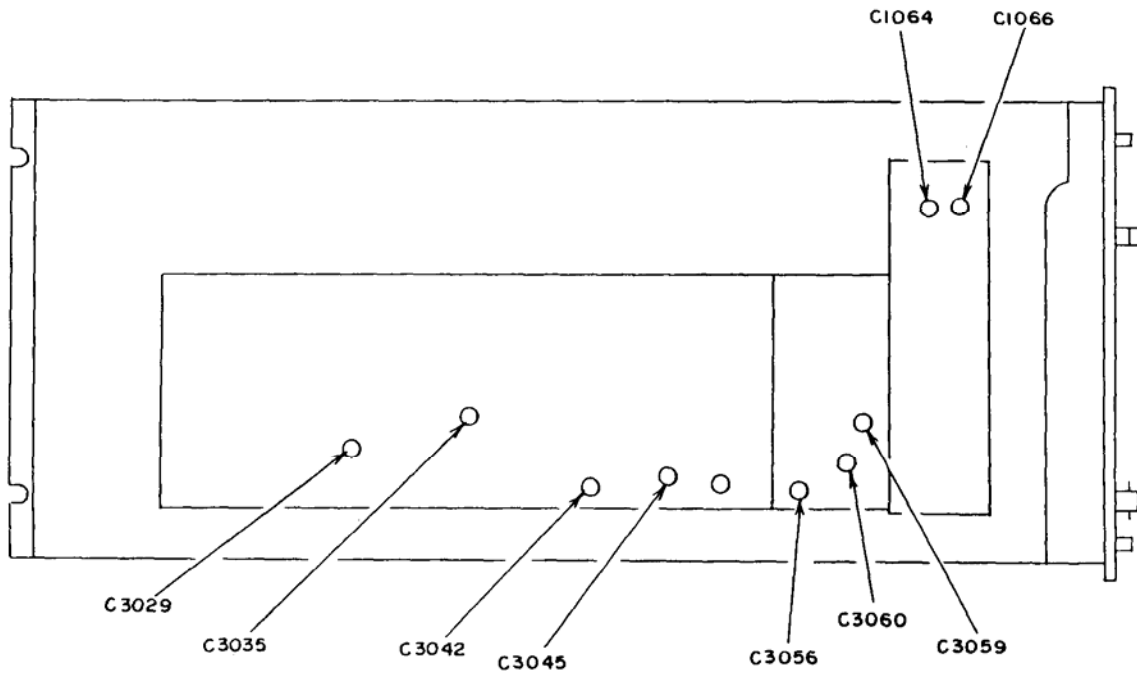

Figure 1. Test instrument - left view.
- (1) Connect spectrum analyzer to **500 MHz +30 dBm** output using cable and 3 dB attenuator (p/o TI).
- (2) Adjust spectrum analyzer to display 500 MHz as center frequency.
- (3) Adjust C3029 (fig. 1 for maximum signal amplitude while keeping the frequency between 499.95 and 500.05 MHz). (R)
- (4) Perform adjustments in order as listed in (a) through (f) below, adjusting for maximum amplitude on spectrum analyzer.
- (a) C3035 (R) (fig. 1).
- (b) C3042 (R) (fig. 1).
- (c) C3045 (R) (fig. 1).
- (d) C3056 (R) (fig. 1).
- (e) C3059 (R) (fig. 1).
- (f) C3060 (R) (fig. 1).
(5) Repeat a (1) through (5) and if required adjust C1064 and C1066 (fig. 1) for best in-tolerance condition (R).
(6) Repeat a (1) through (5) above as required due to interaction.
(1) Adjust C3029 (fig. 1) for 500.00 MHz indication on frequency counter (R).
(2) Repeat paragraph 8 a.